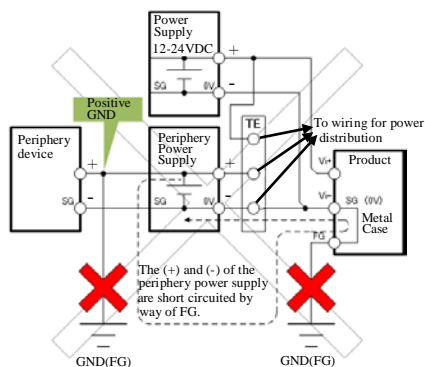

Figure 2.7. Example in which the periphery power supply is short circuited
- As shown in Figure 2.7, never connect the negative electrode (Vi-) terminal of this product to the negative electrode of a periphery device whose periphery power supply has been positive grounded. Doing so may cause malfunction, heat generation, faults, or damage.